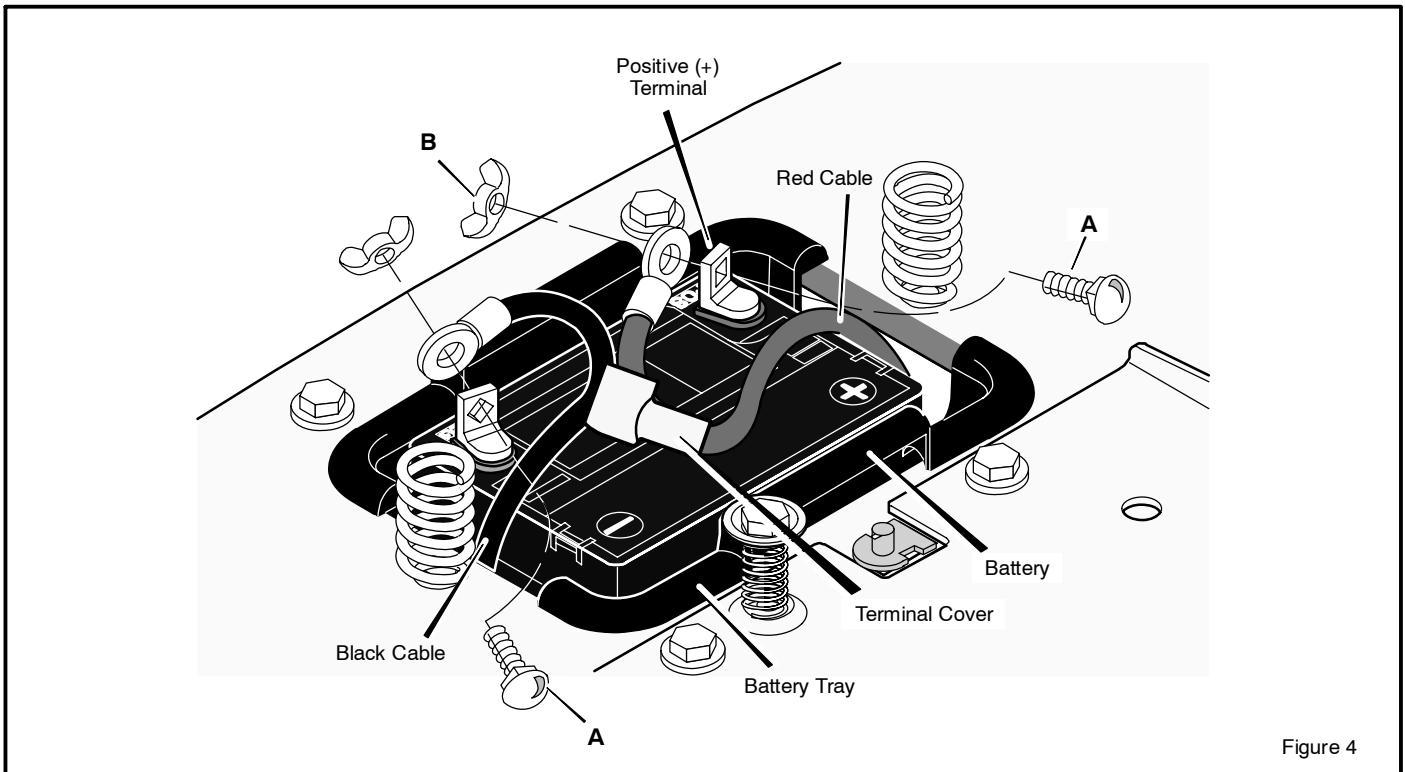

Figure 4
1. Check the top of the battery for the location of the **battery date** (Figure 4).
2. Fasten the **red cable** and **terminal cover** (if equipped) to the **positive (+) terminal** with the fasteners as shown (Figure 4).